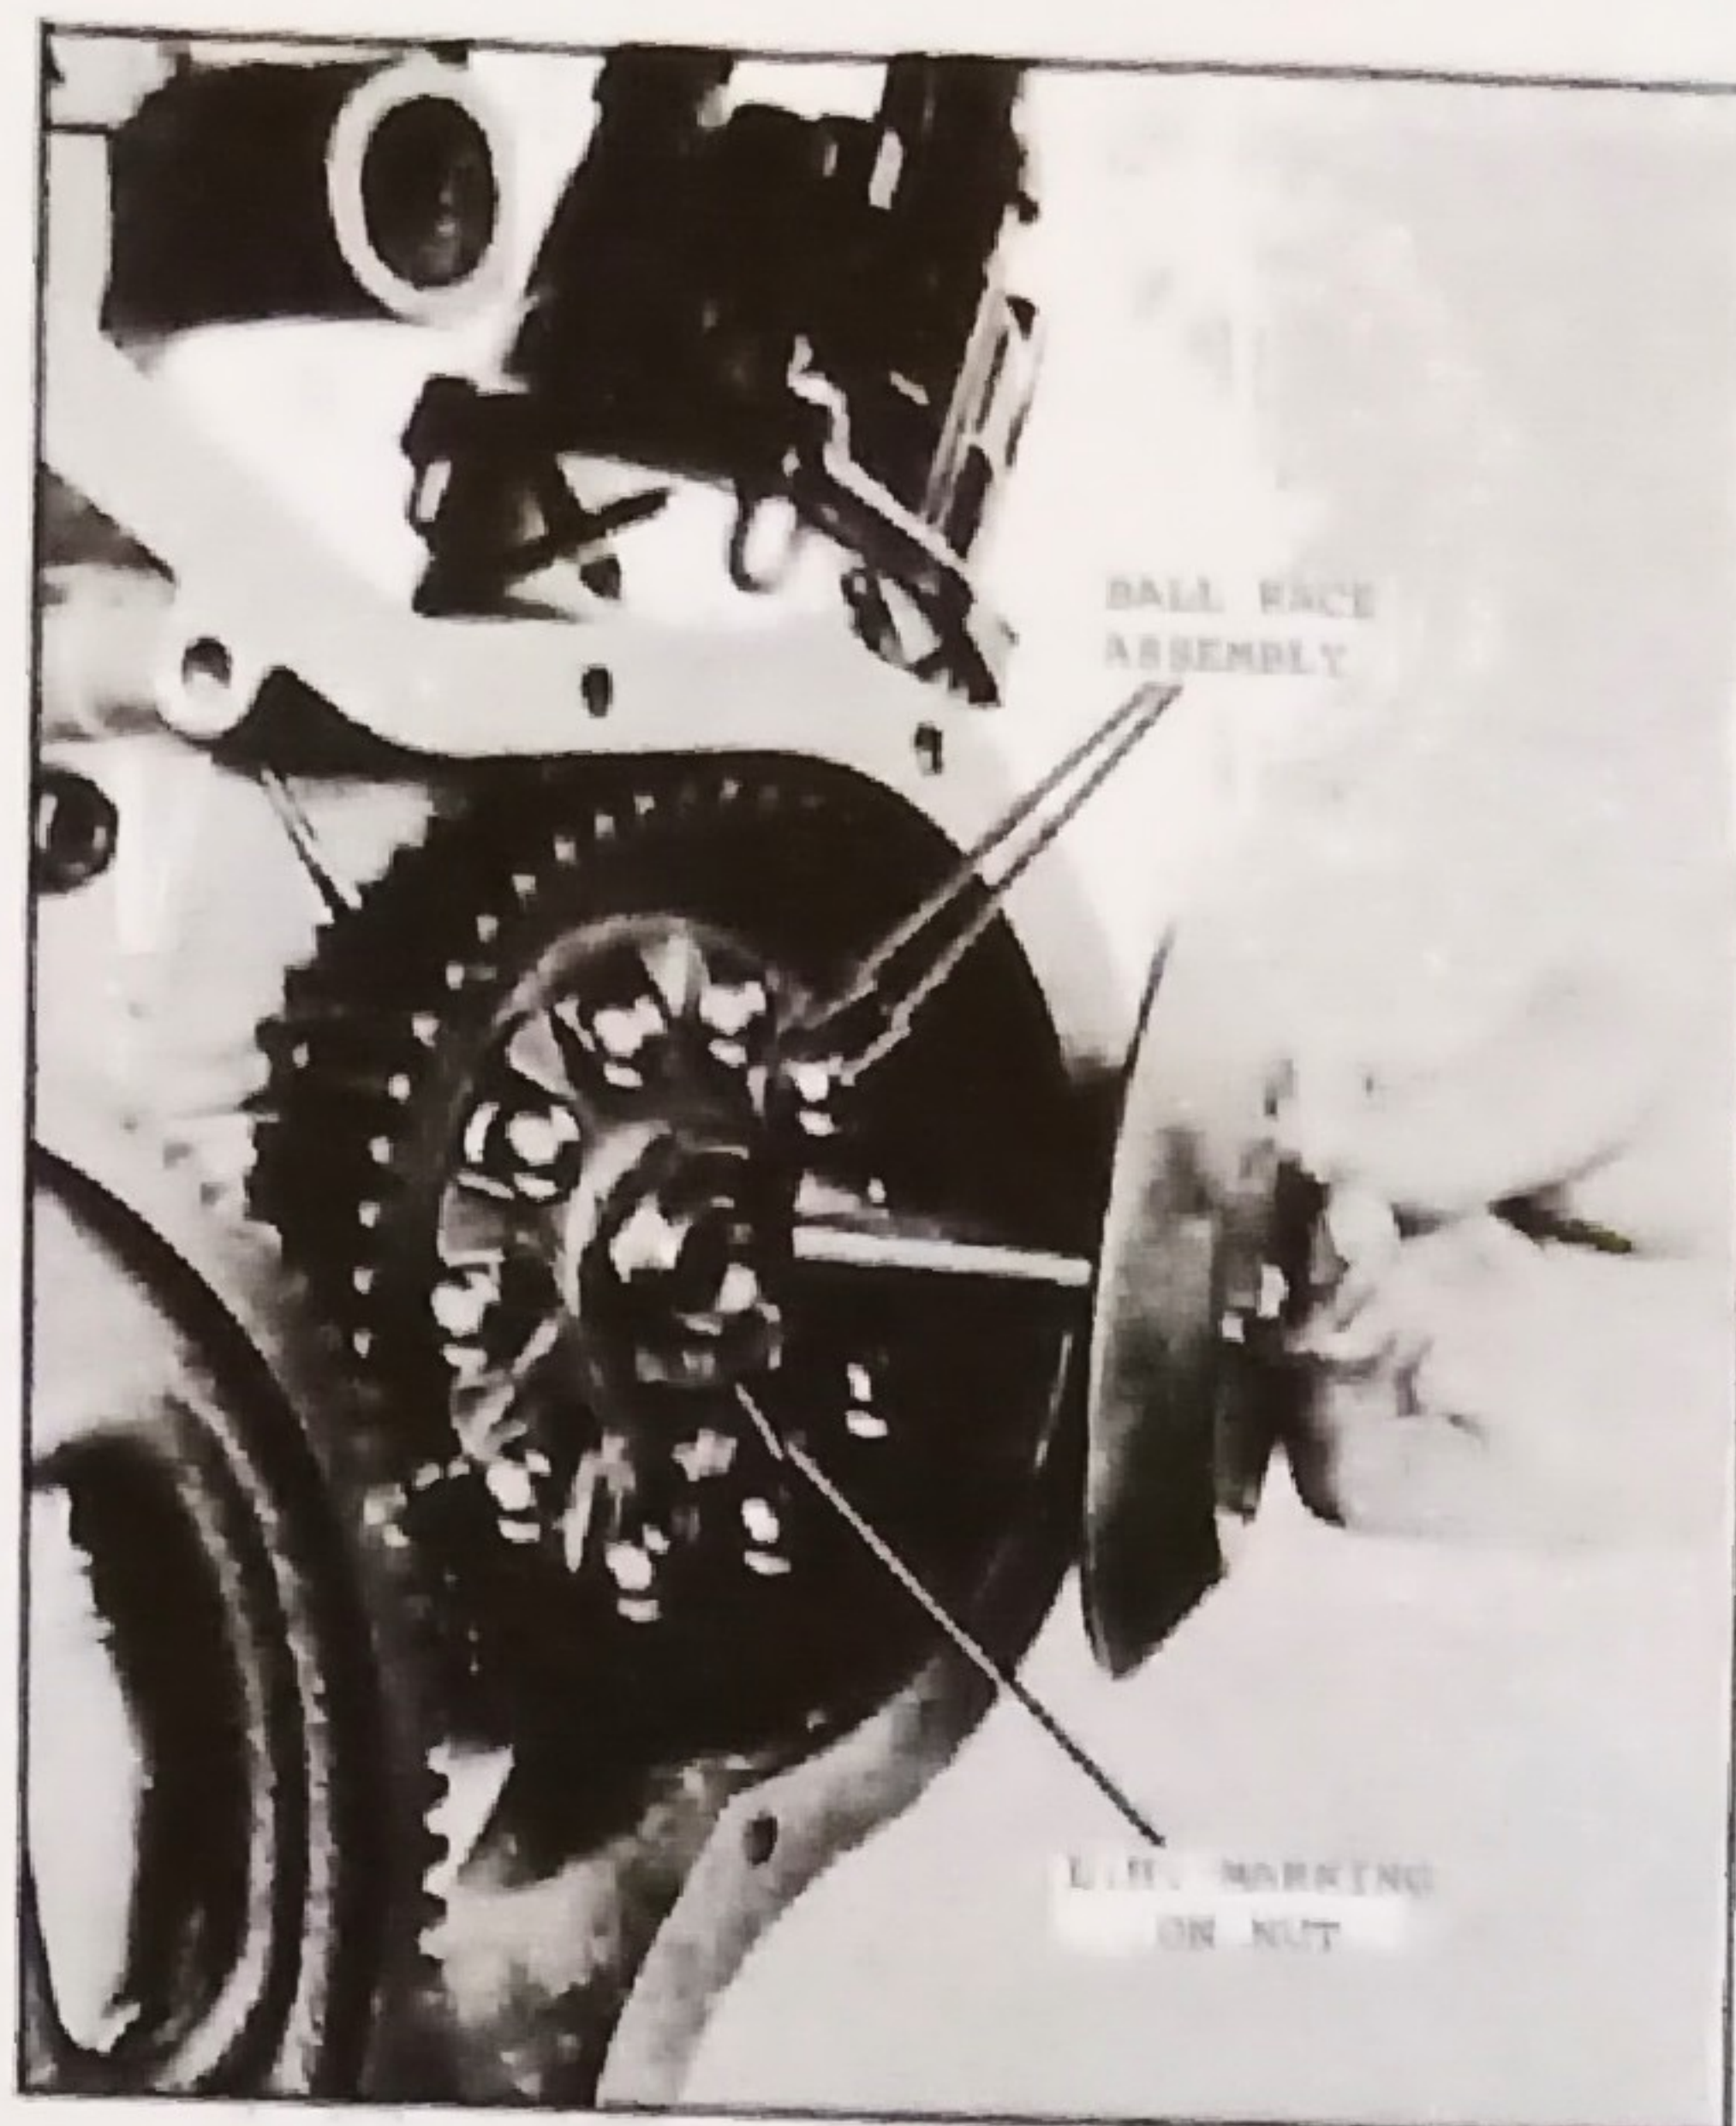

Fig. 42 - Removing or Installing the Governor Thrust Plate Assembly
1. Remove governor thrust plate assembly as shown in Fig. 42.